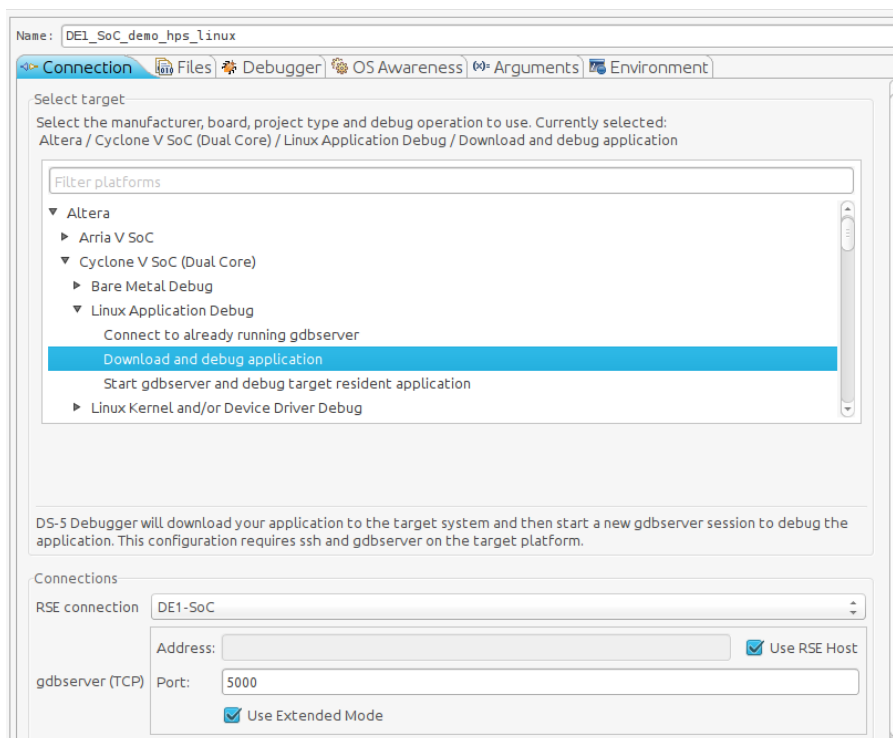

Figure 13-19. Debug Configuration "Connection" Tab
- b. Set the "RSE connection" to "DE1-SoC". This is the remote system connection we created earlier. You should have something similar to Figure 13-19.